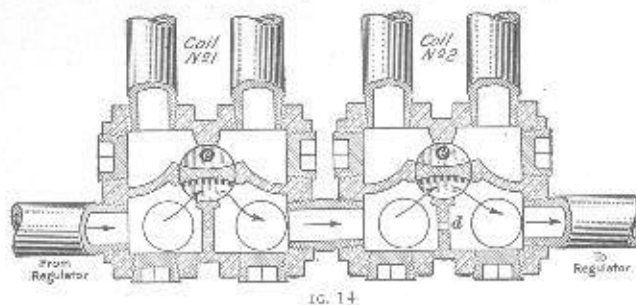
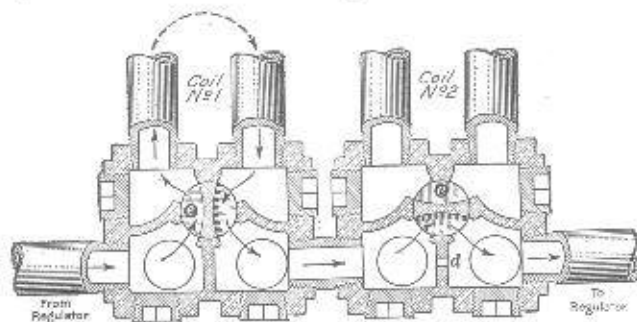

FIG. 14
FIG. 15
any one or more of the other coils. How this may be accomplished is shown in Figs. 14 to 17, inclusive. The figures
In Fig. 14, both valves are closed so that the steam short-circuits across both cut-out valves and does not go through either coil. In Fig. 15, the cut-out valve on the left is open so
15. Cut-out valves are made in No. 1 style as illustrated in Fig. 14 in connection with coil No. 1, and in No. 2 style as illustrated in Fig. 14 in connection with coil No. 2. In the No. 2 style there is, as shown, a $\frac{1}{8}$ -inch drainage hole *d* in the partition on the regulator side of the valve.
When a cut-out valve is closed, any condensation in the coil will escape through the $\frac{1}{8}$ -inch drip hole *e*, Fig. 14, in the bottom of the heater-coil end of the valve, since the drip hole *e* is open in the closed position of the valve.